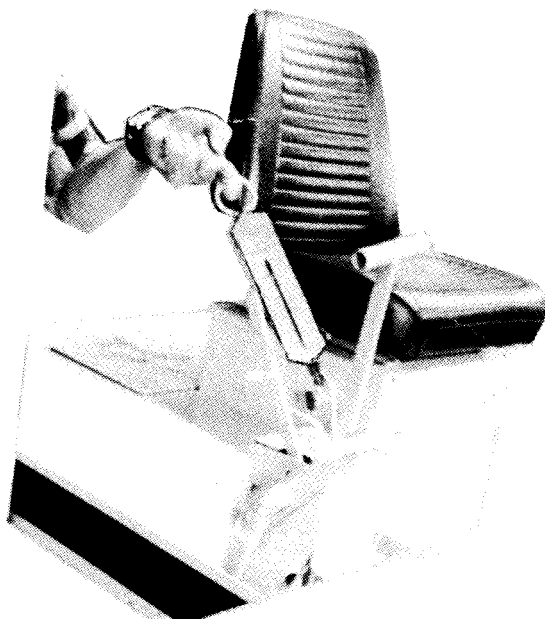

Figure 2
5. The clevis should not be turned in either direction more than one full revolution before being tested. Replace clevis pin and cotter pin and test. Use a spring scale to measure the force needed to engage the brake. Attach the scale to brake lever and pull to engage the brake. See reference figure 2. The scale should read between 40 to 45 lbs. Repeat steps 3 and 4 until correct force is obtained.